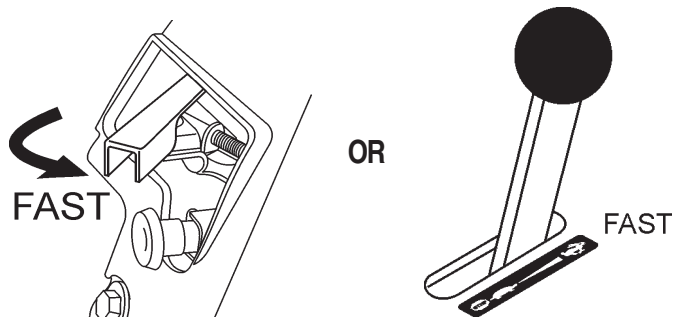

Figure 35. Throttle Lever (Fast Position)
6. Place the **throttle lever** (Figure 35) halfway between **FAST** and **SLOW** for starting.